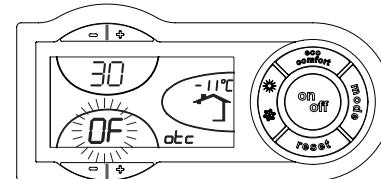

fig. 12 - Parallel curve offset
- Press the DHW buttons (details 01 and 00 -) to set parameter 1 (for natural gas) or fig. 12 (for LPG).